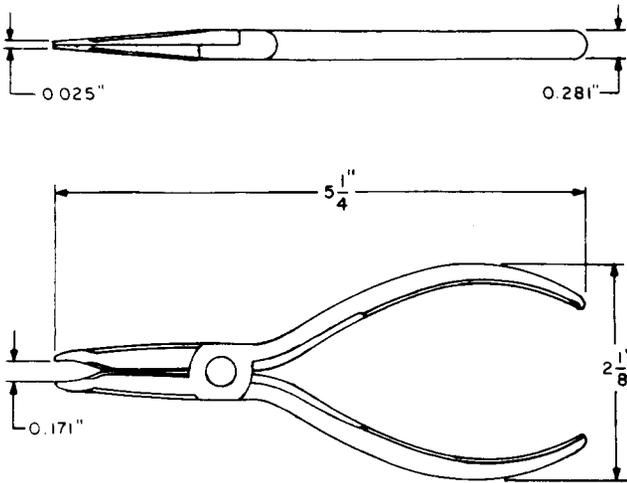

Fig. 2—319B Lamp Cap and Number Plate Extractor Tool
2.02 **319B:** The 319B lamp cap and number plate extractor tool (Fig. 2) is used in removing 2-, 4-, and 8-type lamp caps and 59-, 60-, and similar-type number plates.